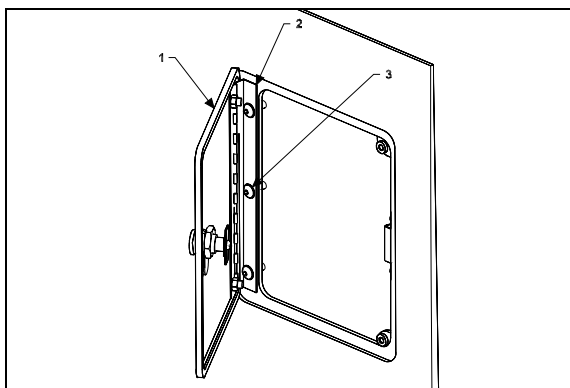

FIGURE 71: FUEL FILLER DOOR
1. Open the fuel filler door (1, Fig. 71).
2. Loosen the screws (3, Fig. 71) holding the panel to hinge (2, Fig. 71) assembly.